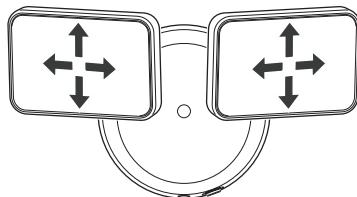

Figure 5
9. If needed, gently grasp the lamp heads and tilt them up or down or side to side to adjust the light coverage area (see Figure 5).